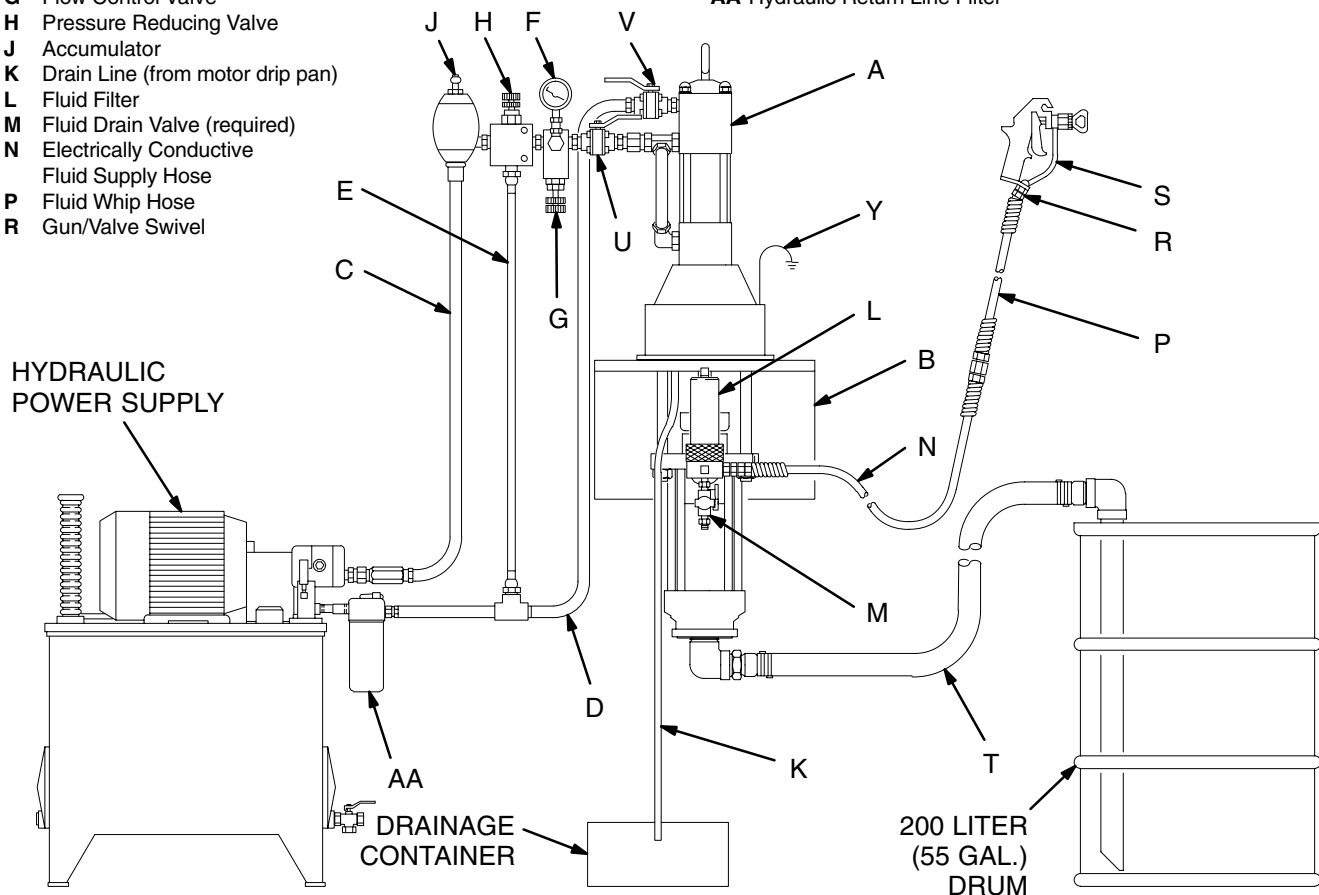

Fig. 4
Fig. 4 is only a guide for selecting and installing system components and accessories. Contact your Graco distributor for assistance in designing a system to suit your particular needs.
Mount the pump (A) to suit the type of installation planned. Fig. 4 illustrates a wall-mounted system. Pump dimensions and the mounting hole layout are shown on pages 44 and 45.
On the hydraulic supply line (C), install the following accessories in the order shown in Fig. 4, using adapters as necessary:
- **A shutoff valve (U)** isolates the pump for service.
- **A fluid pressure gauge (F)** to monitor hydraulic oil pressure to the motor and to avoid overpressurizing the motor or displacement pump, and **a pressure and temperature compensated flow control valve (G)** to prevent the motor from running too fast and possibly damaging itself.
- **A pressure reducing valve (H), with a drain line (E)** run directly to the hydraulic return line (D).
- **An accumulator (J)** to reduce the hammering effect caused by the motor reversing direction.
On the hydraulic return line (D), install the following accessories in the order shown in Fig. 4, using adapters as necessary:
- **A shutoff valve (V)** isolates the pump for service.
- **A filter (AA)** of 10 micron size.
Install the following accessories in the positions shown in Fig. 4, using adapters as necessary:
- **A fluid filter (L)** with a 60 mesh (250 micron) stainless steel element, to filter particles from the fluid as it leaves the pump. It includes a **fluid drain valve (M)**, which is required in your system to relieve fluid pressure in the hose and gun (see the **WARNING** at left).
- **A gun or valve (S)** dispenses the fluid. The gun shown in Fig. 4 is an airless spray gun for light to medium viscosity fluids.
- **A gun swivel (R)** allows for easier gun movement.
- **A suction kit (T)** allows the pump to draw fluid from a 200 liter (55 gallon) drum.